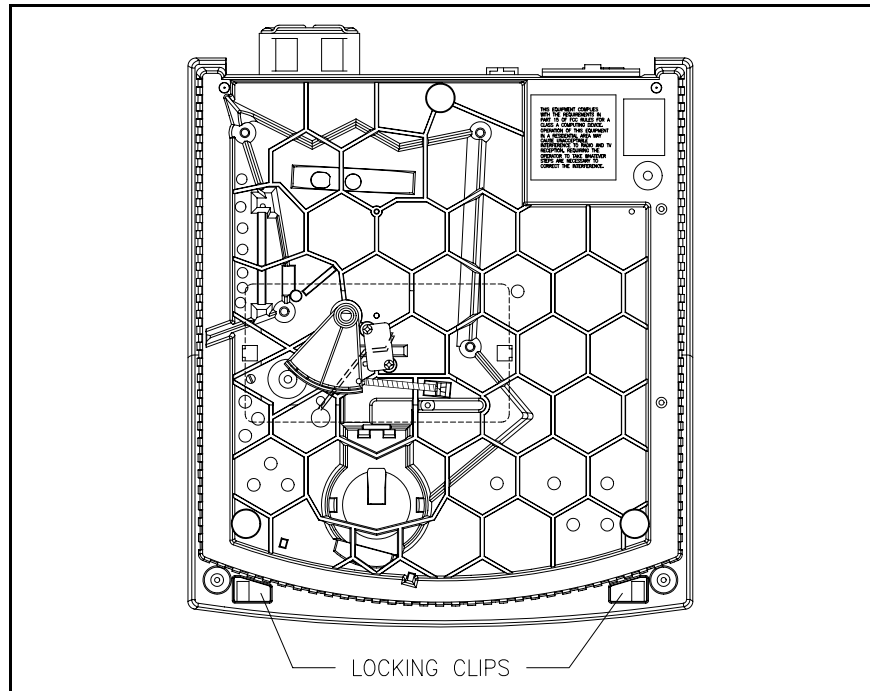

Figure 9.3 - Base Assembly: Bottom View
4. Reach under the front of the unit and press the two clips toward the sides of the unit and up. Figure 9.3 shows a bottom view of the base assembly indicating the location of the two clips.